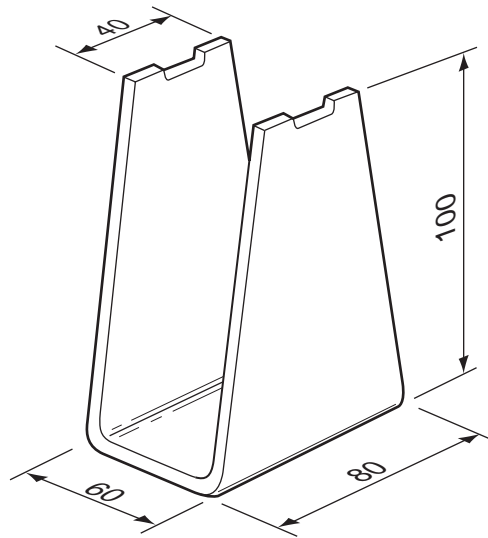

Fig. 10
- (a) Fig. 10 shows details of the aluminium support.
(b) Use sketches and notes to show how the aluminium sheet in (a)(i) could be bent to the shape of the support shown in Fig. 10.